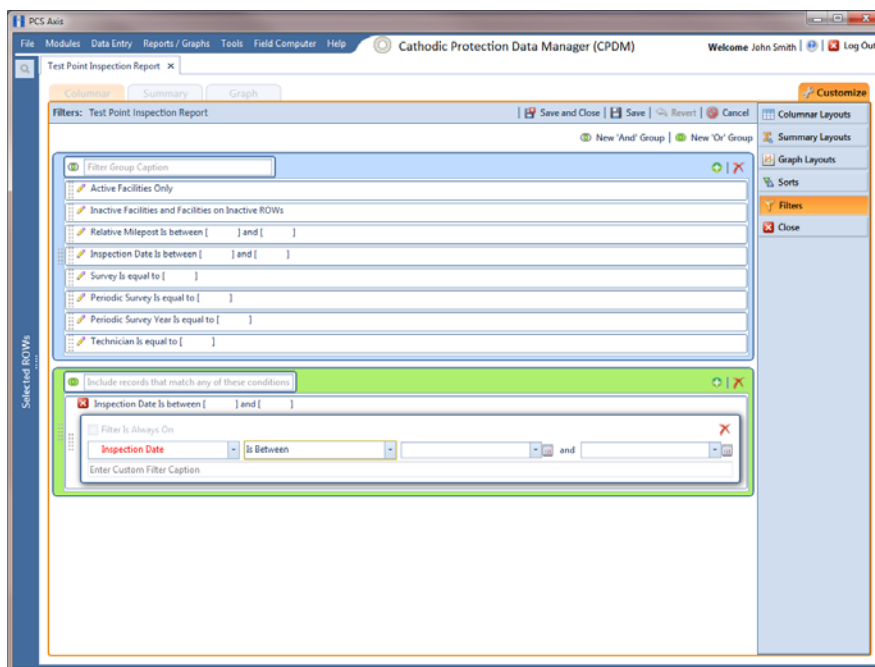

Figure 15-44. New 'Or' Filter Group
- 4 Click  **New 'Or' Group** to open a filter properties group box (Figure 15-44).
- 7 When adding a date filter, such as *Inspection Date Is Between*, set a date range using a calendar or dynamic dates in the following manner (Figure 15-44, page 628):